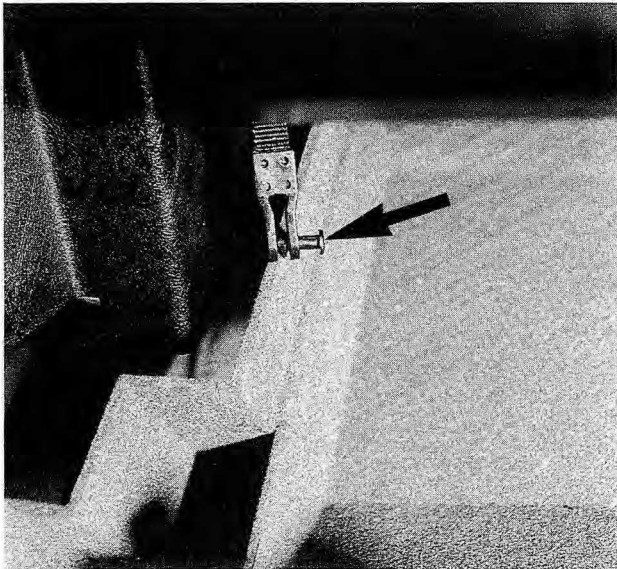

Fig. 4-11. Glove box retaining strap with pin partially removed (arrow). Remove pins from both sides.
1. Open the glove box and disconnect the retaining straps by pushing out the securing pins. See Fig. 4-11.